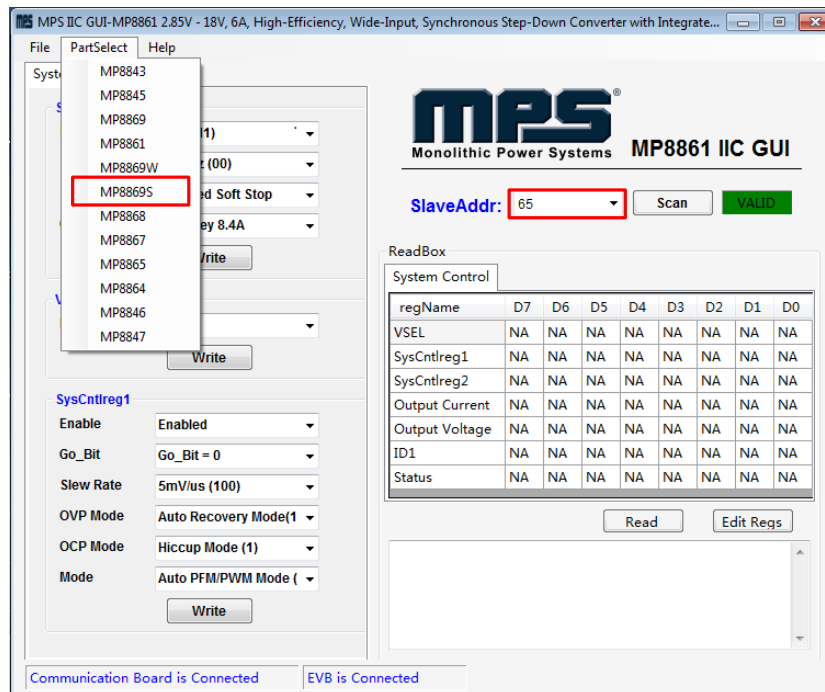
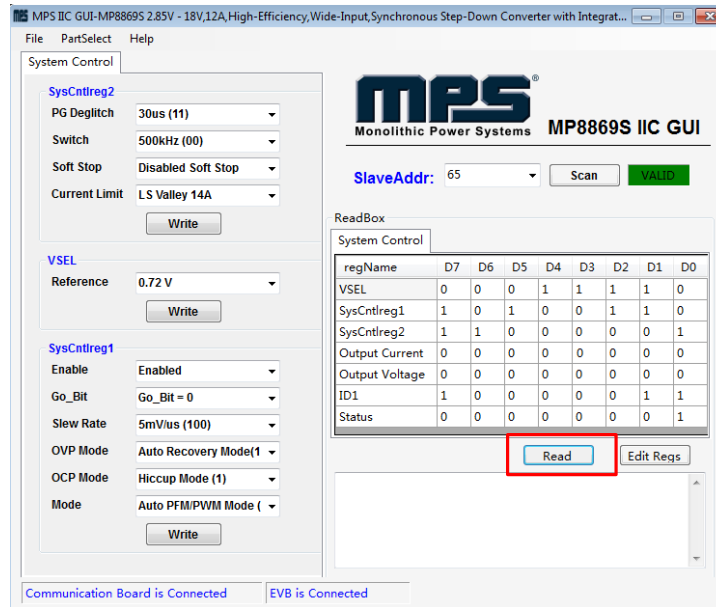

Figure 7: Appearance of Address Indicates Successful Connection
Figure 9: Values from I2C Shown in Table
- If the connection is successful, the address will be listed in the “Slave Address” (see Figure 7).
- Click the “Part Select” button to select the MP8869S (see Figure 7). The default GUI window is for the MP8861. The Register Control menu will appear on the left side. I2C register values will be read and displayed on the right side after clicking the “Read” button (see Figure 9).